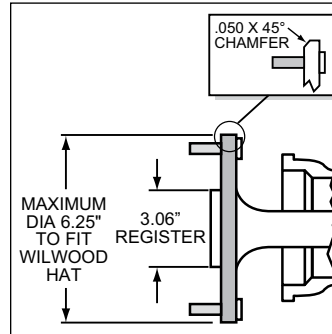

Figure 3. Axle Flange Maximum Dimension
- Maximum axle flange diameter must be no larger than 6.25" w/.050" x 45° chamfer, Figure 3.